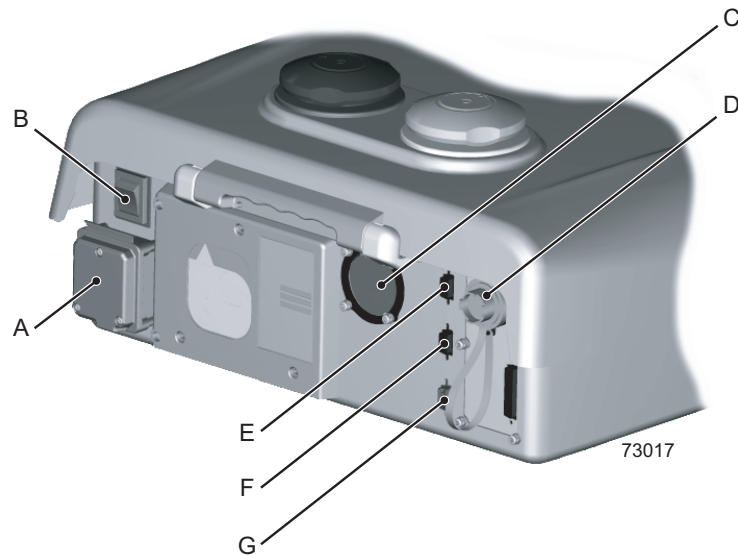

Figure 1. Linx 5900/7900 printer rear panel
Figure 1 shows the layout of the rear panel of the Linx 5900 and 7900 printers.
Figure 1 shows the following items:
Make sure that the Mains Power Supply Switch (item B in Figure 1) is in the Off (O) position before you connect the printer to the power supply.